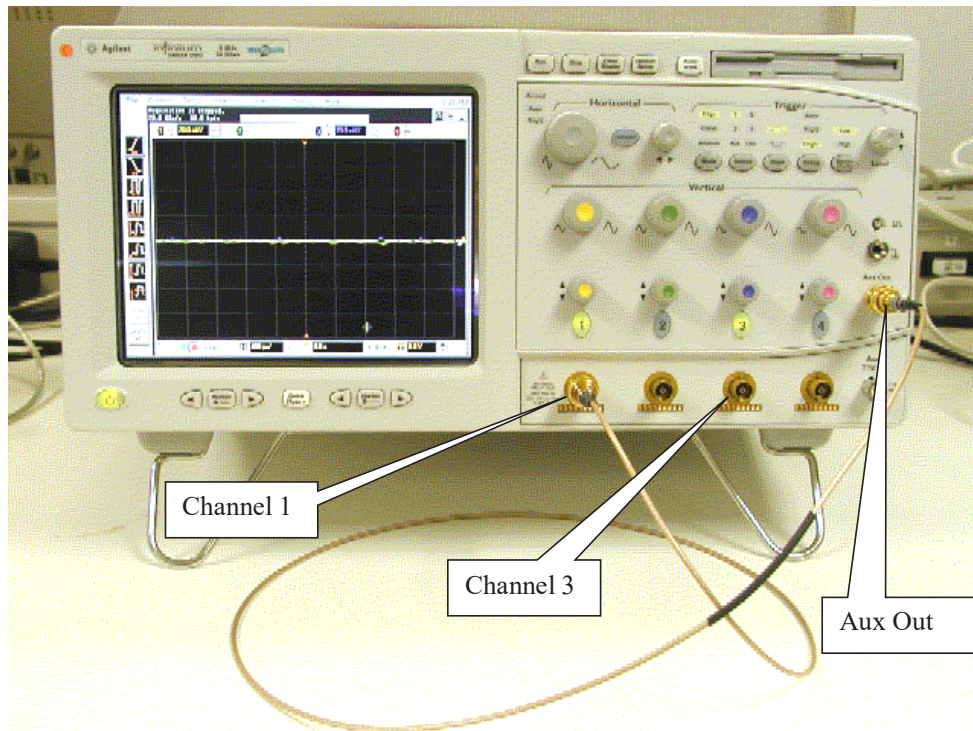

Figure 7 Vertical Input Calibration Connections (Cable on Channel 3 not shown).
- 1 Referring to the Figure 7 below, perform the following steps:
- 13 Referring to Figure 7 on page 1290, perform the following steps: